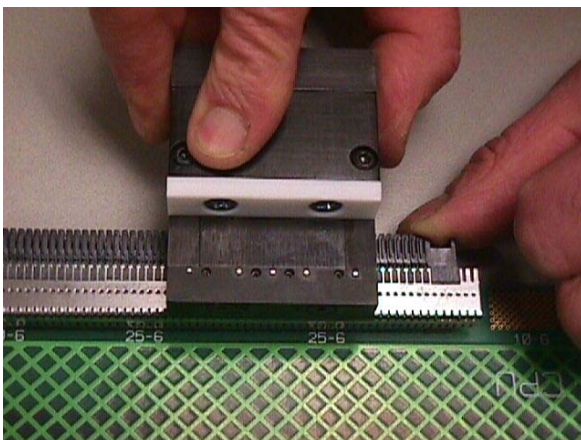

Figure 9
- Step 2. Remove the stiffener from the connector using removal Tool No. 600-1875-000, in the appropriate orientation according to connector type. With the side of the tool with the Delrin insert facing up, place the protruding pins downward into the pilot holes (see Figure 9).